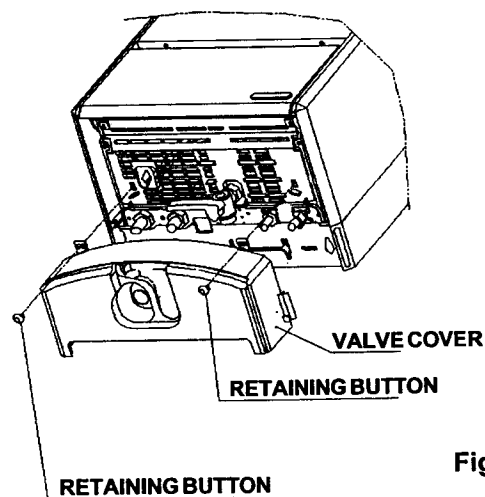

Fig. 23A
- 6.14.2 Clip valve cover (fig. 23A) into place and retain using the two retaining buttons by pushing them through the holes and turning through 90°.